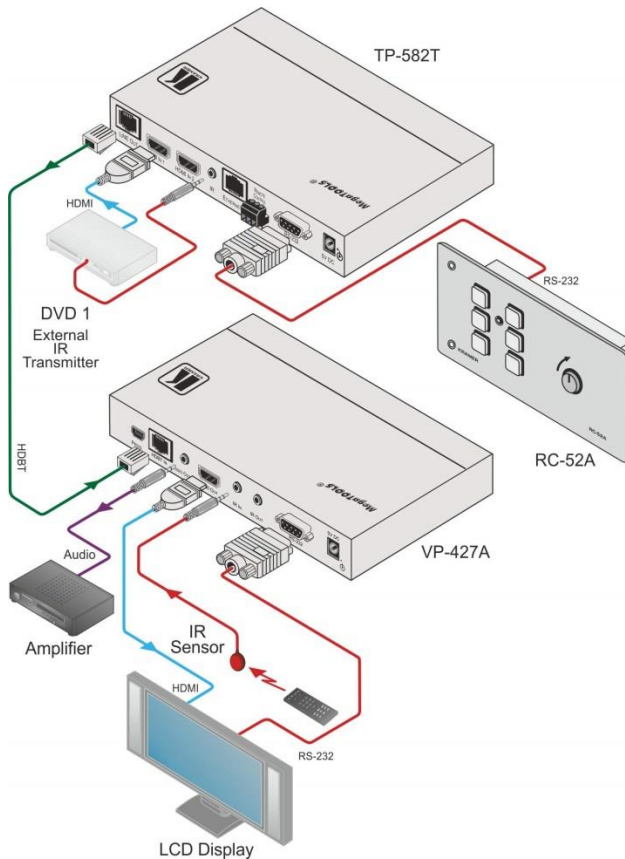

Figure 2: Connecting the VP-427A HDBaseT to HDMI+Audio Receiver/Scaler
To connect the **VP-427A** as illustrated in the example in Figure 2:
7. Connect the 5V DC power adapter to the power socket and connect the adapter to the mains electricity (not shown in Figure 2).
Figure 2 shows RS-232 bidirectional control of the DVD that is connected to a TP-582T.
The example in Figure 2 illustrates how to control the DVD player that is connected to **TP-582T** using a remote control, via the **VP-427A**. In this example, the External IR Sensor is connected to the IR connector of the **VP-427A** and an IR Emitter is connected between the **TP-582T** and the DVD player. The DVD remote control sends a command while pointing towards the External IR Sensor. The IR signal passes through the TP cable and the IR Emitter to the DVD player, which responds to the command sent.